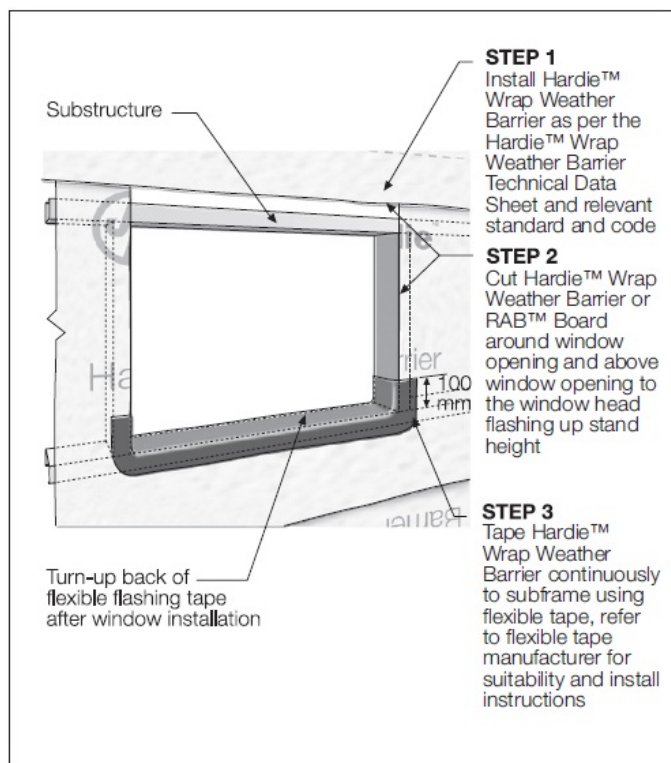

FIGURE 43 INSTALLATION OF HARDIE™ WRAP WEATHER BARRIER
- Windows may be flush with the facade using figures 43– 53. This is a guide only. All windows are different and sufficient provision for moisture management must be made.